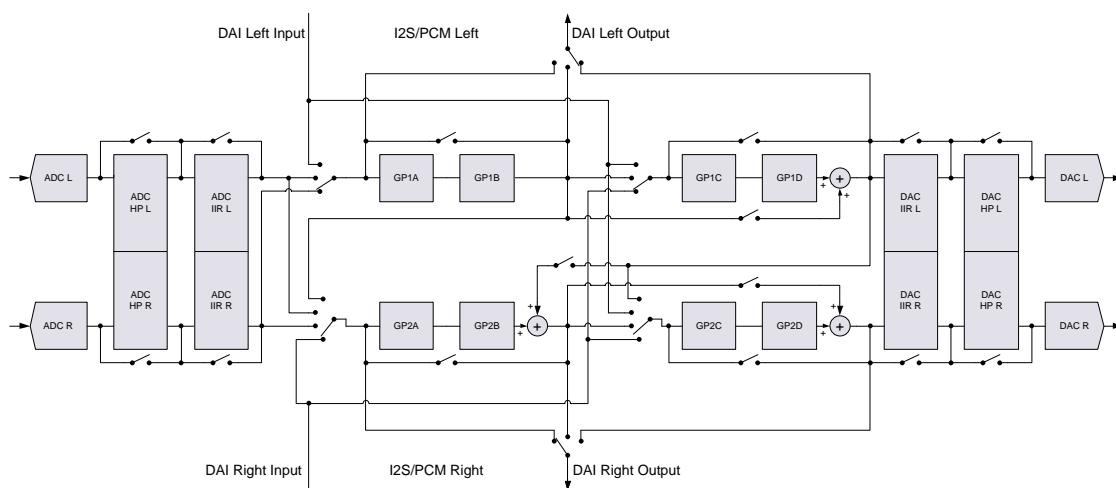

Figure 16: Digital signal processing engine (simplified block diagram)
A digital high pass filter for each DAC channel is implemented (configurable by control DAC_HPF_F0 (address 0x14, Table 61) that can be enabled via control DAC_HPF_EN (address 0x14, Table 61, see blocks ‘DAC HP’ in Figure 16). After Reset, the high pass filters for both channels are enabled by default.
filtering (optionally enabled) removes any signal DC offset (see blocks 'ADC HP' and 'DAC HP' in Figure 16) and offers 5-band equalisation during recording and sound playback.
Alternatively it can provide dedicated voice band filtering at samples rates ≤ 16 kHz (see blocks 'ADC IIR' and 'DAC IIR' in Figure 16).
An additional general purpose (GP) filter engine offers up to eight second-order biquad filter stages with configurable 16-bit coefficients, and supports flexible digital audio routing and mixing arrangements. Figure 16 shows some possible routings (a subset of the available settings) for filter blocks GP1A to GP2D with the related control registers. Typical use cases with example configurations are explained in the section 8.3.
To allow user-specific sound control, the recording path includes a programmable 5-band equaliser (combined in the ADC IIR blocks in Figure 16). This is enabled using control ADC_EQ_EN (address 0x13, Table 60).